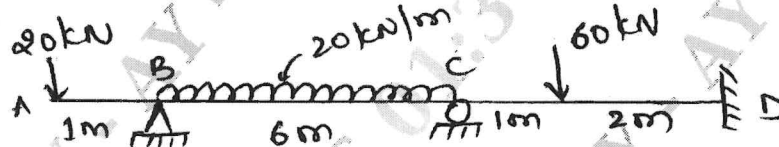

Fig.Q9
- Q.9 Analyze the continuous beam shown in Fig.Q9 by moment distribution method. The support 'C' sinks by 9 mm. Take $EI = 1 \times 10^{12} \text{ N-mm}^2$. 20 L4 CO5